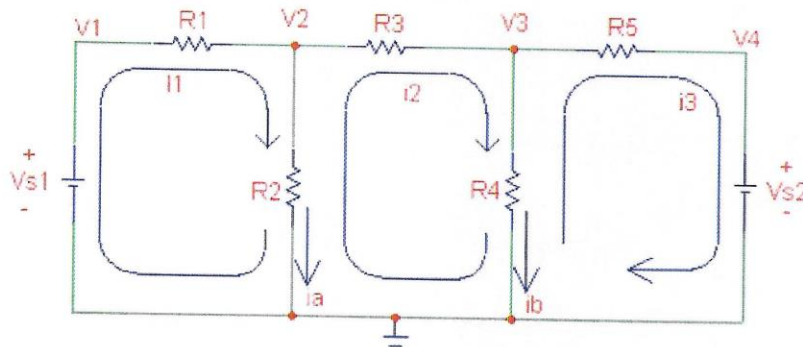

Figure 1
1. Construct the circuit shown in Figure 1 using available power supply, resistors, breadboard, and connecting wires provided. $R_1 = 1.5\text{k}\Omega$, $R_2 = 1\text{k}\Omega$, $R_3 = 3.3\text{k}\Omega$, $R_4 = 4.7\text{k}\Omega$, $R_5 = 1.8\text{k}\Omega$.